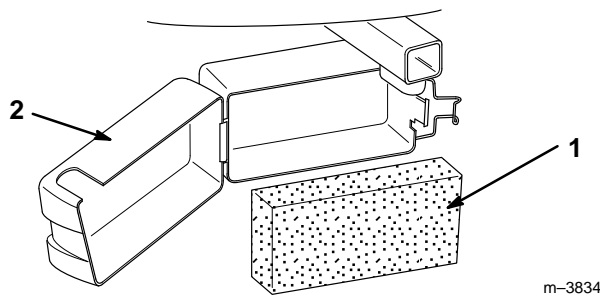

Figure 21
1. To remove air filter, snap cover latch open and swing to side (Fig. 21).